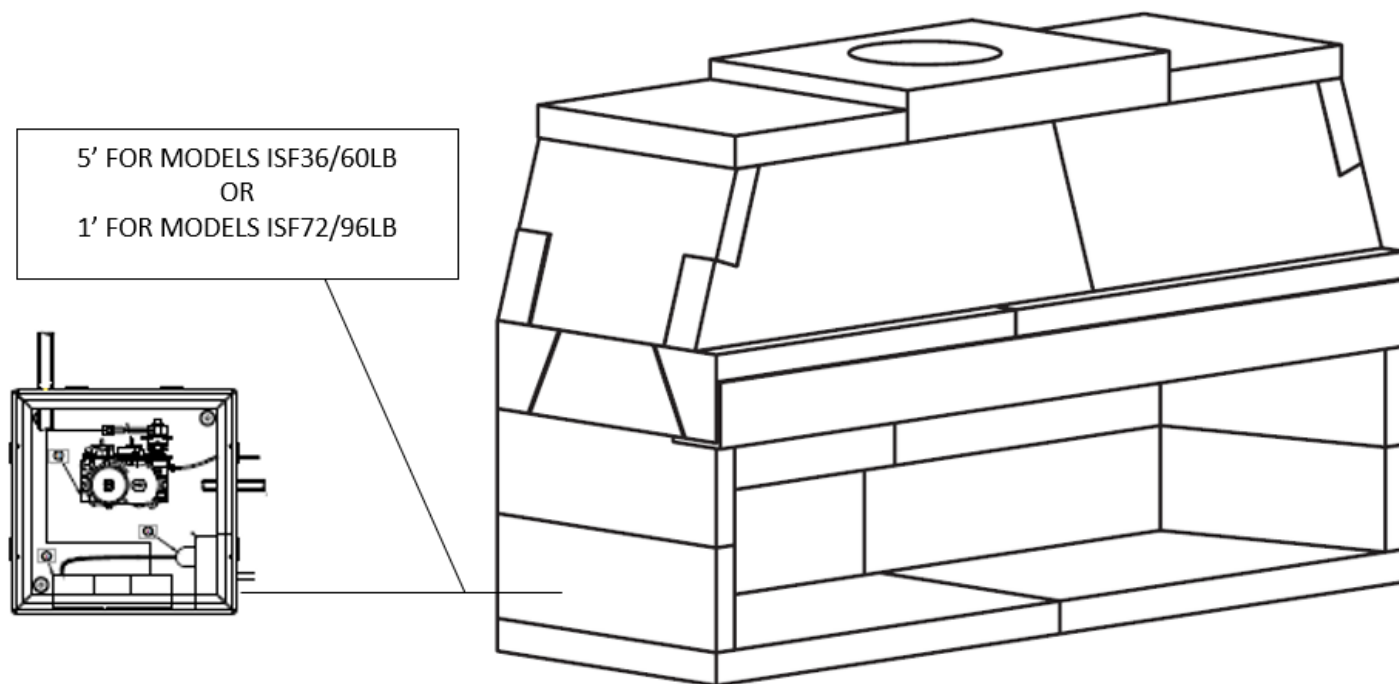

FIGURE 55
- 1) The valve control box comes with an 84" pilot assembly lead; therefore, the box must be mounted within 5' of the fireplace for models ISF36/60LB and within 1' for models ISF72/96LB. **(Figure 55)**